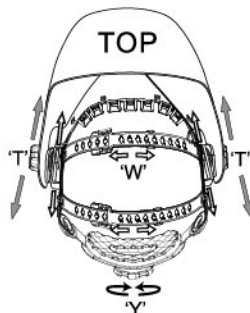

fig.6
The overall circumference of the headband can be made larger or smaller by rotating the knob on the back of the headband. (See adjustment "Y" in fig.6). This can be done while wearing the helmet and allows just the right tension to be
- If the headband is riding too high or too low on your head, adjust the strap which passes over the top of your head. To do this release the end of the band by pushing the locking pin out of the hole in the band. Slide the two portions of the band to a greater or lesser width as required and push the locking pin through the nearest hole. (See adjustment "W" in fig.6).
Step 1: Undo the block nut (See "T" in fig.6) to adjust the distance between the helmet and your face in the down position.